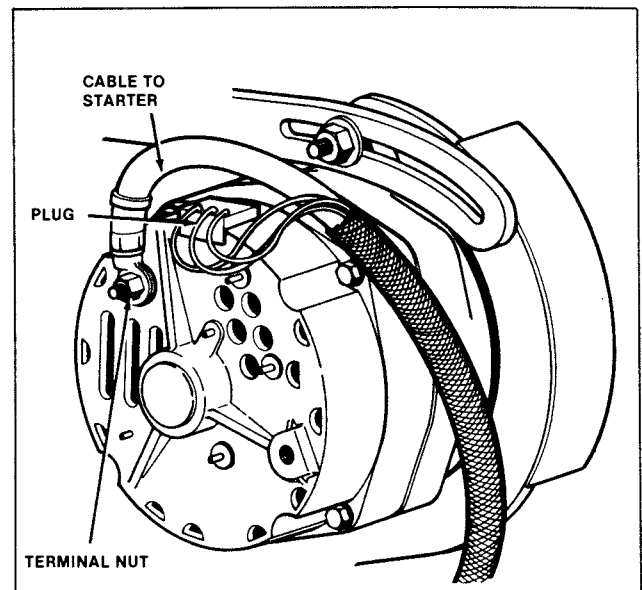

FIGURE 2-6: Alternator Wires
23. Disconnect cable at alternator. Label. Remove plug (Figure 2-6).